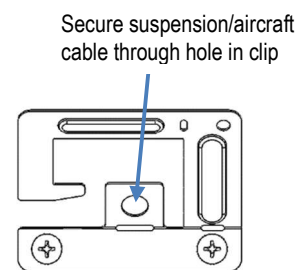

FIG. 10: SUSPENSION MOUNTING
- Use hanger wire holes at all 4 corners and appropriately rated hanging cables (not included) to suspend fixture. See figure 10.